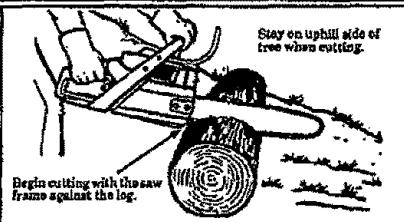

Figure 16
- a. Hold saw firmly on the ground as shown in Figure 16. Make sure the saw chain is free to turn without contacting any object.